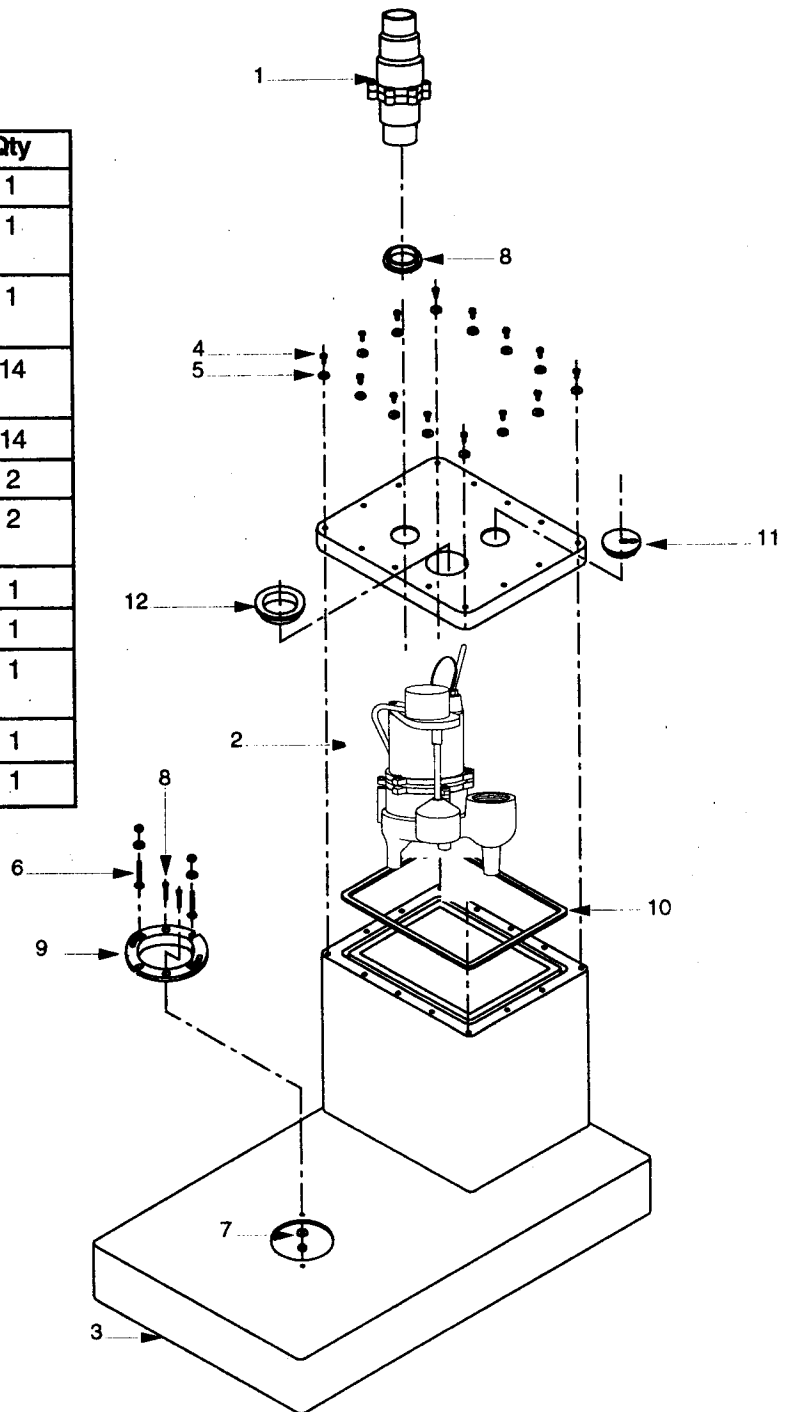

Fig. 3
4. Install the cast iron closet flange (Fig. 3, Item 9). Drill the two pre-centered holes per Fig. 3. Use a 9/32" diameter drill bit. Insert flange through the pump chamber. Use 2 pen head bolts (1/4 - 20 - 2" long) and 2 bolts (1/4 - 20 - 1" long) with washers and nuts provided. Seal bolt heads inside the tank with foam gasket material. (Fig. 3 Item 10) Apply 1" or 2" strip at all bolts locations. The 2" long pan head bolts are used to fasten toilet to the tank, or sub floor. (Note: A standard floor flange is not required.) The position of the toilet must be determined to allow the longer bolts to be inserted in the correct holes. Install the cast iron closet flange making sure to align closet bolt slots, for the longer bolts to allow installation of the toilet bowl in the desired direction. (i.e., If the vent and discharge pipe is to be installed behind the wall, the toilet bowl/flush tank will be parallel to the pump housing and piping).
6. Apply foam gasket (Fig. 3, Item 10) to flange of pump chamber. For best results, overlap ends or gasket approximately 1/2".
9. Place 2" NPT flange (Fig. 3, Item 12) in 3" hole in pump chamber lid, this is the vent. Place 2" straight flange (Fig. 3, Item 8) in 2-3/8" hole, this is the discharge.
11. Install the lid on the tank as follows. Push the 2" discharge pipe down until approximately 1-1/2" inches is protruding through the lid. Pull pump power cord up out of the tank and hang over edge of the pump housing. Screw threaded adapter into the pump discharge by rotating the lid assembly, until hand tight. Feed end of pump power cord and the cord seal through small hole in cover in the lid. (Fig. 3, Item 10) Push lid down into position on the pump well. Tighten pump 2" discharge pipe with a strap wrench. Do not press cord seal into lid at this time. (Ref. Step 21), Bolt lid in place with (14) 1/2"-20 bolts and washers provided. (Fig. 3, Items 4, 5)
13. The discharge pipe should protrude approximately 4" above the surface of the lid. Attach the check valve (Fig. 3; item 1) to the discharge pipe with the arrow on the check valve body, indicating flow, pointing away from the pump.